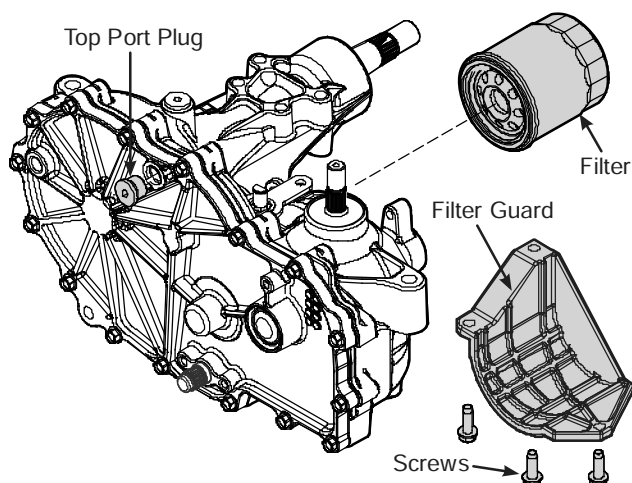

Figure 6, Filter And Filter Guard
10. Fill with 20W50 motor oil until oil just appears at the bottom of each transaxle's top port (approximately 2 qts. per transaxle, 4 qts. total). Install the top port plug into each transaxle as the oil level reaches this port. See Figure 6.